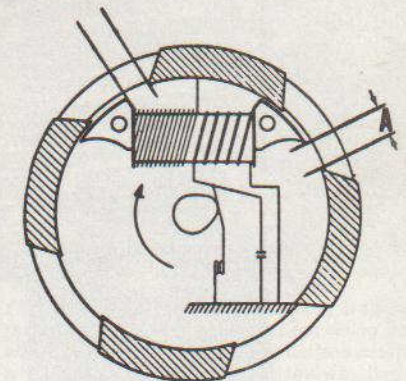

Fig. S20—The distance (A) between trailing edge of magnet and leading edge of pole shoe when primary voltage is highest is known as **EDGE GAP.**
**MAGNETO EDGE GAP.** The point of maximum acceleration of the movement of the flywheel magnetic field through the high tension coil (and therefore, the point of maximum current induced in the primary coil windings) occurs when the trailing edge of the flywheel magnet is slightly past the left hand leg of the armature core as shown in Fig. S20. The exact point of maximum primary current is determined by using electrical measuring devices. The distance between the trailing edge of the flywheel magnet and the leg of the armature core at this point is measured and becomes a service specification. This dis-